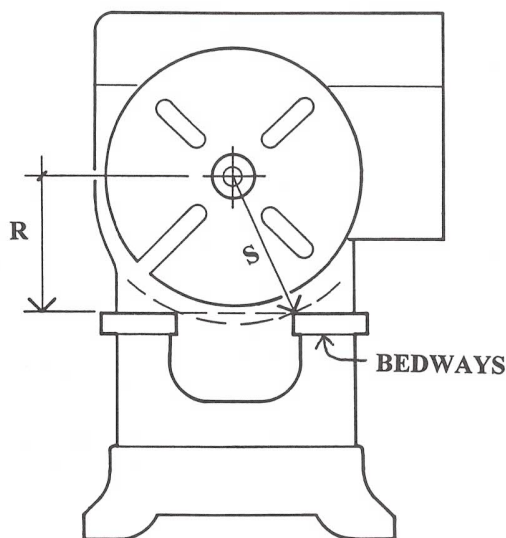

FIG. 2
Now for a bit of confusion. It is conventional practice in the United Kingdom to size center lathes according to the nominal height of their centers **above the top surface of the bed ways**, indicated by Dimension R in **Figure 2**. As you can see from the illustration (shown looking towards the headstock), the center height dimension (R) will usually be a bit shorter than the radius of the cylinder (S) and that